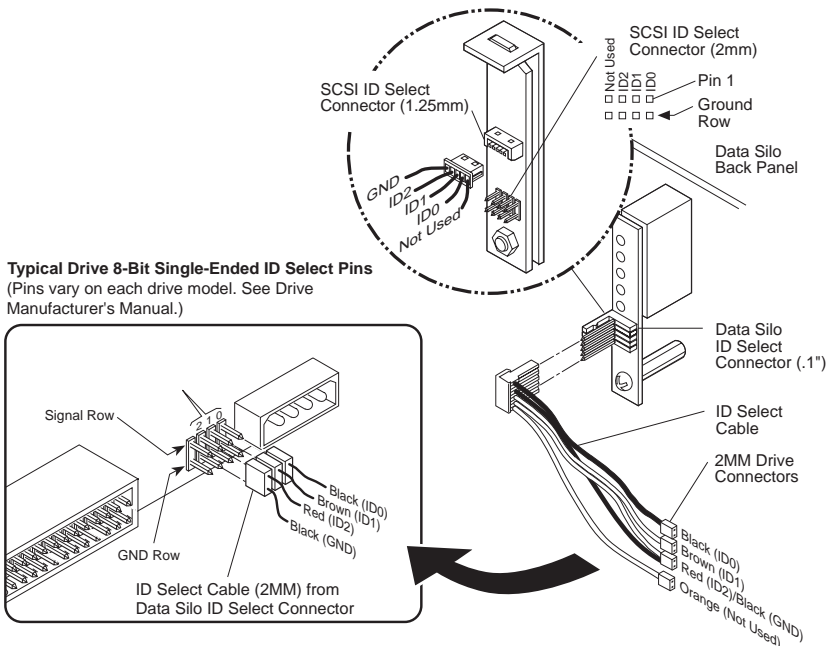

Figure 6: 8-Bit SCSI ID Cable Connection
4. **SCSI Drive ID Select Jumpers** - Locate the SCSI ID select jumper pins on the drive, and remove any jumpers on these pins. The Data Silo SCSI ID cable will be attached to these pins on each drive (Figures 6 and 7).
NOTE: Depending upon the model, the Data Silo uses one of two different types of SCSI ID select switches. The first type of switch utilizes a single connector with .1" pin spacing and has a matching SCSI ID cable designed to attach to 2mm drive pins. The other type of SCSI ID switch has 2 connectors with a reversing SCSI ID cable that will allow either end of the cable to be attached to the drive. The second type of switch will attach to either 2mm or 1.25mm drive pins (Figures 6 and 7).
The unit ID cable contains **black**, **brown**, **red/black**, and **orange** wires. Attach three (3) connectors from the SCSI ID select cable to the appropriate 2mm drive pins (Figure 6). The fourth (orange) wire is not used for the 8-bit installation.
11. Connect the ID select cable to the ID select interface connector on the rear panel of the Data Silo as shown in Figures 6 and 7.